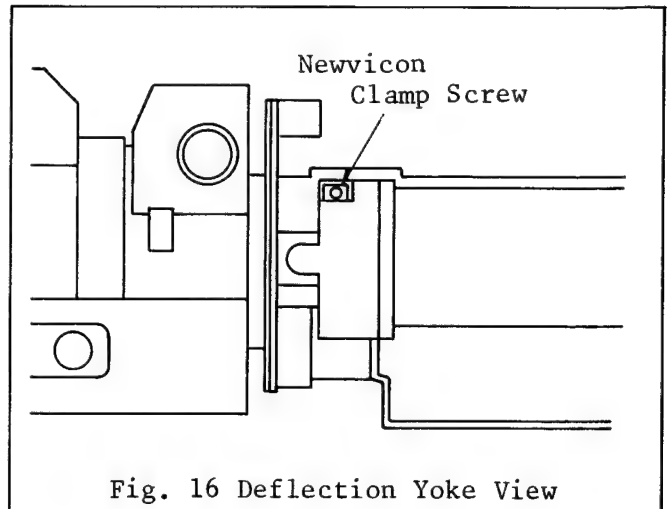

Fig. 16 Deflection Yoke View
5. Loosen the newvicon clamp screw on the deflection yoke assembly as shown in Fig. 16.